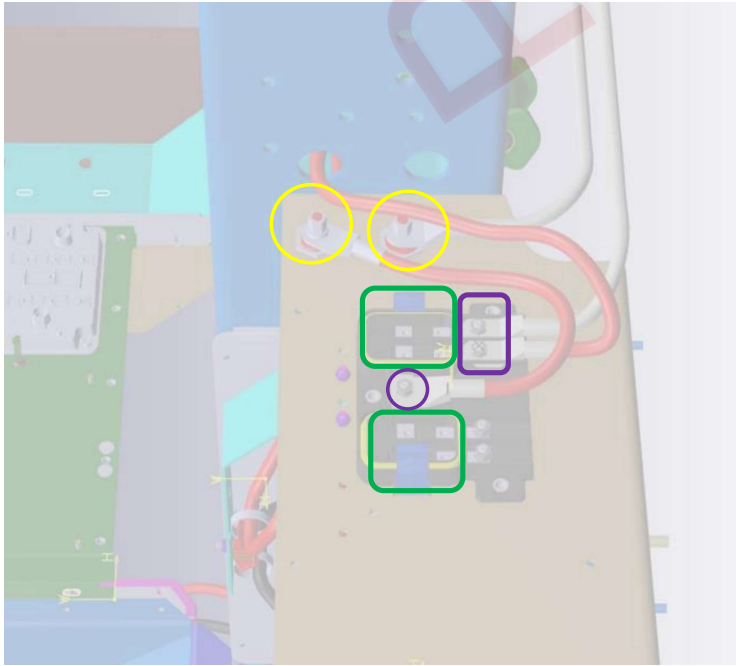

Figure 4
3. Service locations highlighted in Figures 4 - 7. Any connections/components found to have any thermal stress MUST be replaced.